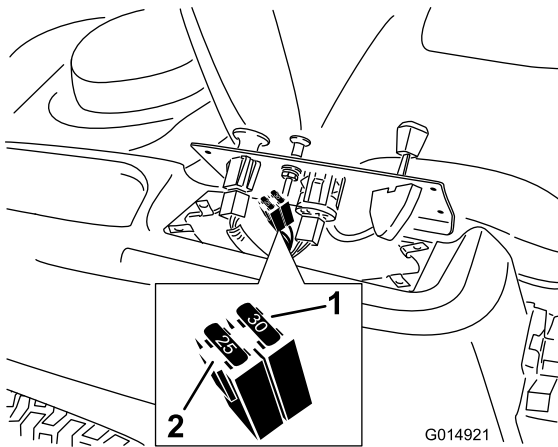

Figure 41
- Lift the control pane up to access the main wiring harness and fuse block (Figure 41).
- To replace a fuse, pull out on the fuse to remove it (Figure 41).